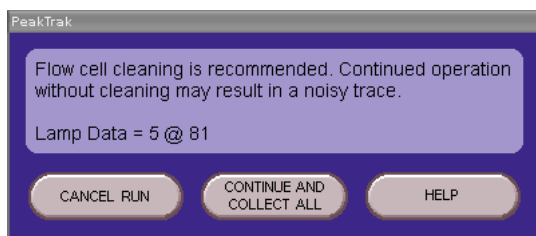

Figure 8-4 Flow cell cleaning message
- frequent messages recommending flow cell cleaning (Figure 8-4).
When the lamp energy is lower than normal, the system will recommend flow cell cleaning (Figure 8-4) before starting a separation run.